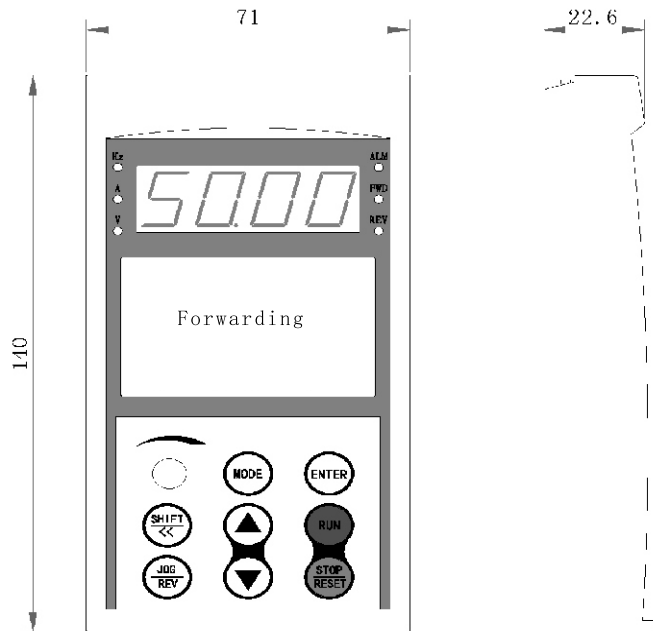

Fig.9-5 ZR05 Operator Panel Dimension
- The hole dimension of the installation socket is as shown in Fig.9-5.